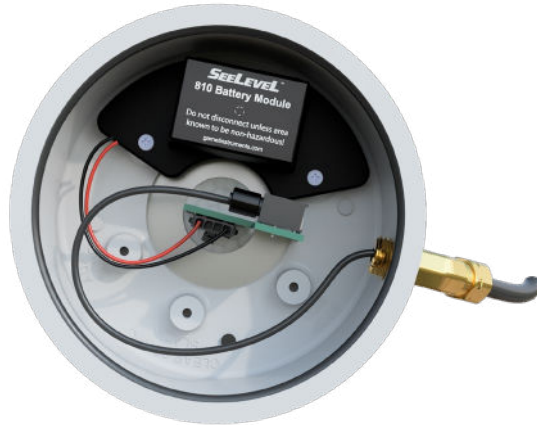

Figure 3.s Fiber Connected into Optic Transmitter in Sender Bar Head
7. Securely tighten the collet. (See Figure 3.s)